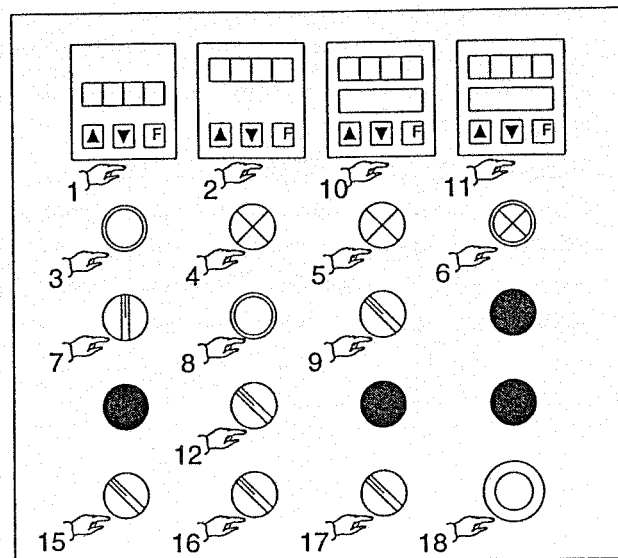

Fig. 5.8
Adjustment is important for correct sealing. Controls on the operator control panel (Pos. 10-11, Fig. 5.8) may be used to adjust the temperature of the sealing head (press "F" and then press + to increase temperature or - to decrease it).
Check that the emergency push button (*Part. 18, Fig. 5.8*) is released. Turn the main switch to the ON position and set the desired sealing head temperature using the digital thermostats (*Part. 10-11, Fig. 5.8*).
- Set the dosing time using the appropriate control (*Part. 2, Fig. 5.8*).
- Set the desired production using the appropriate control (*Part. 1 Fig. 5.8*).